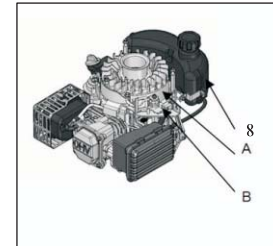

Fig. 12
4. Move the starter control handle (located on equipment) to release the flywheel brake, and verify that there is clearance between the governor arm and the throttle return rod when the throttles in the fast (or high) position. Also verify that there is at least 2 mm clearance between the stopper and the brake cable bracket. (See Fig. 12)